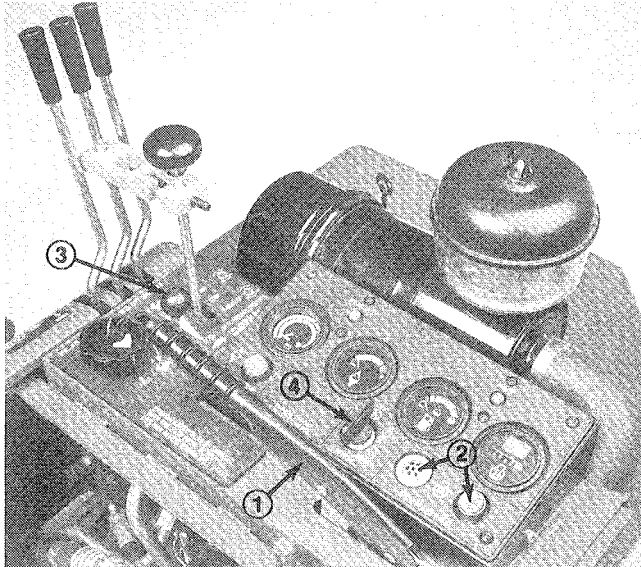

Figure 12
1. Sit on the seat, keep foot off traction pedal. Assure parking brake is engaged (Fig. 12). Traction pedal and mow/backlap lever must be in neutral.
2. If engine or air temperature is below 45°–50° F (7°–10° C), press and hold engine preheat switch in until indicator burns brightly (Fig. 12). Then release switch and proceed to step 3. to start engine.
3. Move throttle to SLOW and turn ignition key to START (Fig. 12). Release key when engine starts.
1. Raise engine cover and use support rod to hold it open (Fig. 12).